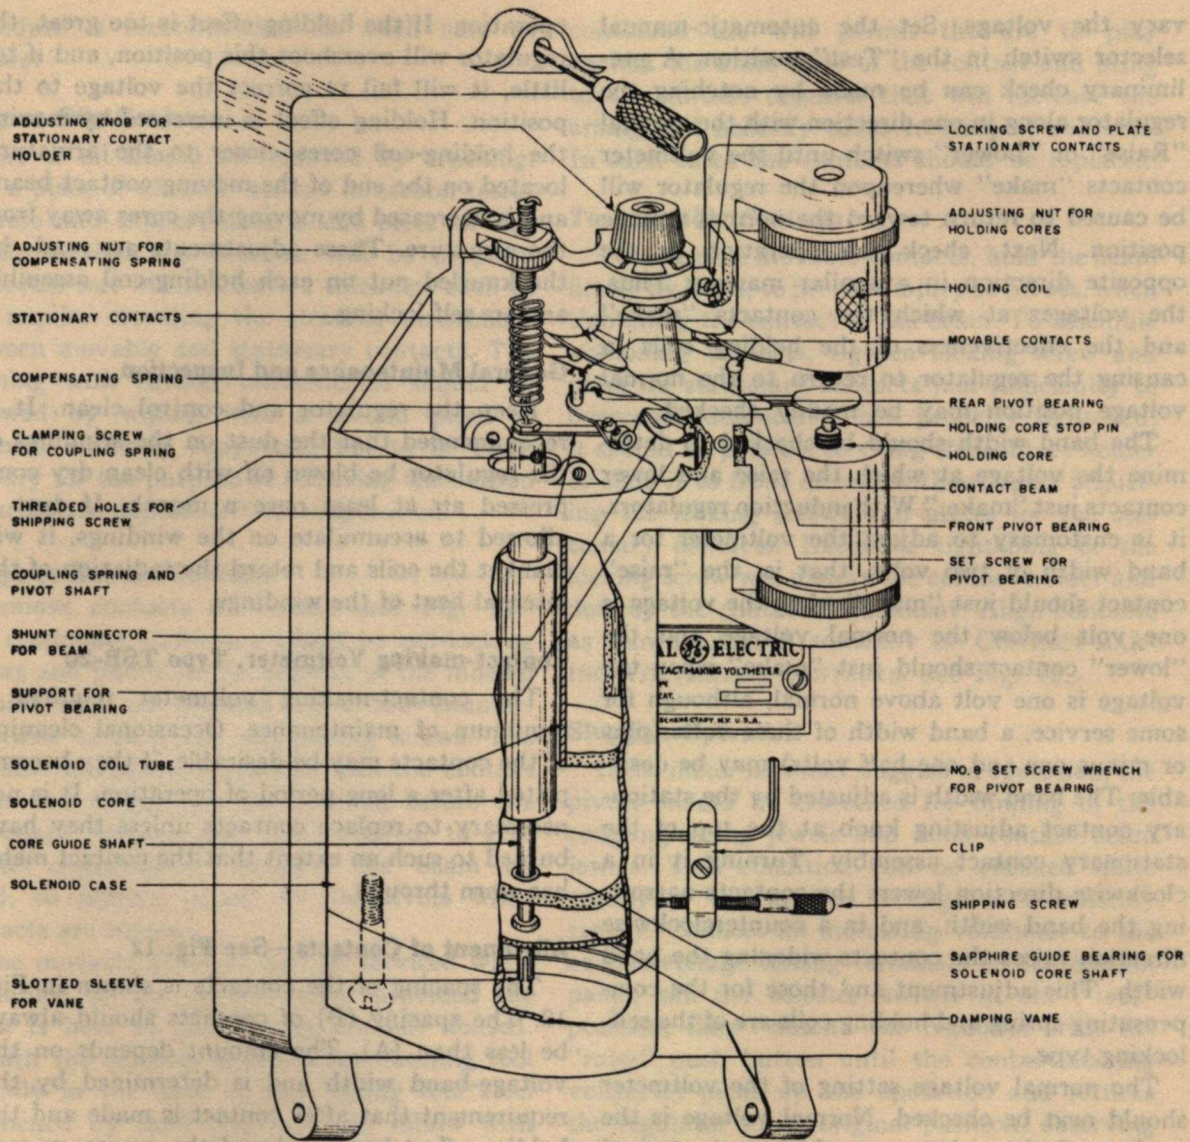
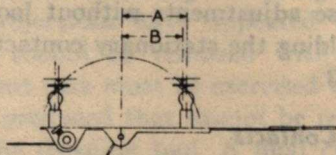

Fig. 13. Sectionalized view of Type TSB-20 contact-making voltmeter
Fig. 12. Alignment of contact-making-voltmeter contacts
Alignment of Contacts—See Fig. 12
The spacing of these contacts is shown in Fig. 12. The (B) spacing should always be less than (A). The amount depends upon the voltage-band width and is determined by the requirement that after contact is made and the holding effect has developed the necessary contact pressure, the contact centers will then coincide. The stationary contacts can be adjusted to obtain this condition by moving these contacts slightly to the left or right, by means of the extensions provided on the contact holders. It should be possible to make these adjustments without loosening the screws that hold these stationary contacts into the contact assembly.
Adjustment of Contact-making Voltmeter— See Fig. 13
The spacing of the contacts is shown in Fig. 12. The spacing (B) of contacts should always be less than (A). The amount depends on the voltage-band width and is determined by the requirement that after contact is made and the holding effect has developed the necessary contact pressure the contact centers will then coincide. The stationary contacts can be adjusted to obtain this condition by moving these contacts by means of the extensions provided on the contact holders. It should be possible to make these adjustments without loosening the screws holding the stationary contacts in place: See Fig. 13.
Remove contacts as follows (see Fig. 13): The stationary contacts are held by self-locking screws and plates in the pockets of the molded support and are released by a few counter-clockwise turns of the self-locking screws. The movable contacts are screwed into the contact beam and should not be removed before the stationary contacts are first removed, to give greater accessibility. Support the beam by hand, to prevent injury to the pivots when contacts are turned.
To assemble movable contacts, hold the beam firmly by hand, to prevent injury to pivots, when tightening the contact in the beam. To assemble stationary contacts, tighten locking screw and plate for stationary contacts just sufficiently to overcome looseness. When properly tightened, it should be possible to swing the contact holder or slide it to front or rear without again adjusting the locking screws and plates for the stationary contacts. Excessive tightening of the locking screw will distort the contact holder and destroy the contact adjustment. Align contacts as shown under ALIGNMENT OF CONTACT-MAKING VOLTMETER CONTACTS. See Fig. 12.
If the meter becomes sluggish in operation, the pivots should be examined for binding of the coupling-spring jewels and main contact beam jewels. This condition can be checked quite readily if the applied voltage is reasonably steady. Connect an indicating voltmeter to the output-voltage testing terminals on the control panel, set the selector switch in the "test" position, then "notch" the regulator with the "raise" push button until the contact-making voltmeter picks up the operation and returns the regulator to its original position, observing very carefully the voltage on the indicating voltmeter at which the contact-making voltmeter picks up the operation each time. Repeat, using the "lower" push button. The observed values should be consistently within 0.1 volt, plus or minus, and if successive trials exceed the total (0.2 volt), friction is probably present. The binding may be caused by too much pressure on the beam pivots. This necessitates the removal of the contact beam as follows. See Fig. 13.